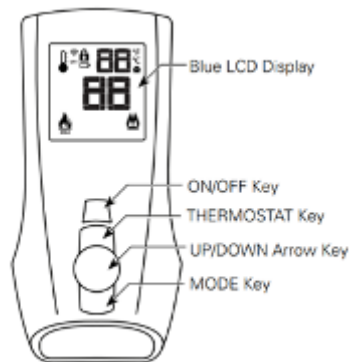
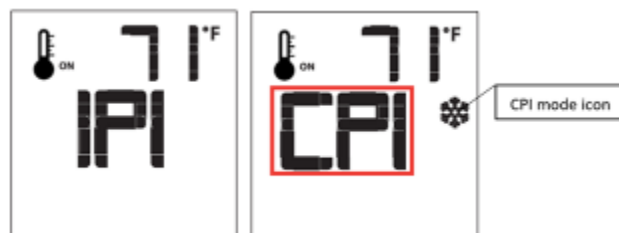

FIGURE 11
FIGURE 15
1. Insert the three (3) provided AAA batteries into the battery bay in the remote. Correctly align polarity (+/-).
3. Push the "ON" button on the remote (**Figure 11**). The control module will beep four (4) times to indicate acceptance of the remote's command. The system is now synchronized.
With the system in the “OFF” position, press the Thermostat Key and the Mode Key at the same time (Figure 11). Look at the LCD screen on the Remote to verify that a C or F is visible to the right of the Room Temperature display (Figure 13).
The default setting is set to IPI. With the system in the OFF position, press the Mode Key (Figure 11) to index to the CPI mode icon. Pressing the UP Arrow Key will return to IPI. A single “beep” will confirm the reception of the command (Figure 15).